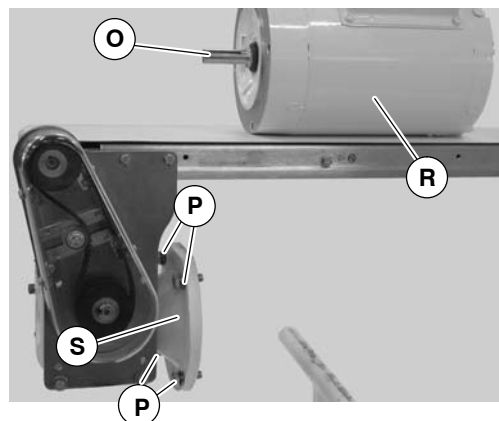

Figure 47
4. Remove screws and lock washers (P of Figure 47). Remove motor (R) from gear reducer (S). Retain motor output shaft key (O).